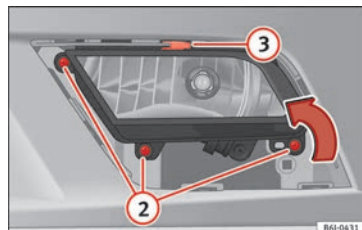

Fig. 96 Front fog light.
- Remove the bolts (3x) » **Fig. 96 ②** to remove the fog light.
- Remove the metal clip situated on the upper part of the fog light by pulling towards the exterior of the vehicle » **Fig. 96 ③**.